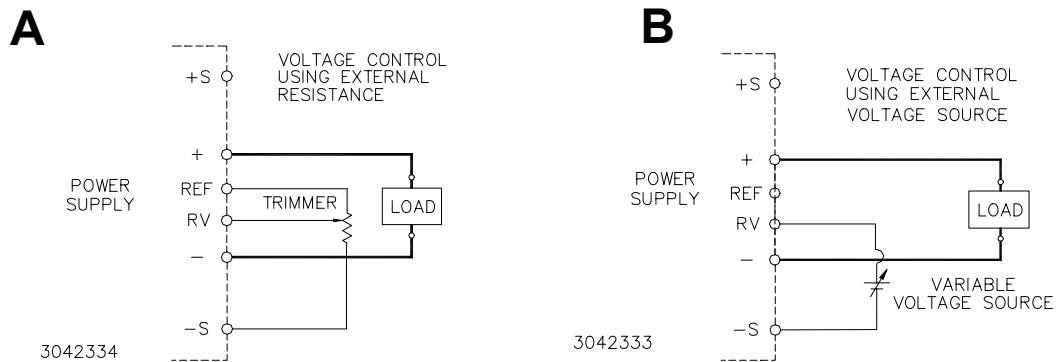

FIGURE 5. CONNECTIONS FOR REMOTE VOLTAGE CONTROL
RESISTANCE. Use a shielded wire, 2m maximum in length, for connection to the trimmer control. Connect the external trimmer as shown in Figure 5 (A). Suggested value for the trimmer control is 5K ohms). With the external trimmer control at its maximum clockwise position, set the output voltage to the desired maximum value by adjusting Vadj clockwise. The value should not be more than 120% of Eo nominal (not more than 110% for the 48-volt model, not more than 3.6V for the 3.3-volt model).
VOLTAGE. By adjusting an external 0-6V voltage source (0-5.5V for the 48-volt model) from minimum to maximum, the maximum output voltage can be adjusted from 0 to 110% (the 3.3-volt model can be adjusted to 3.6V). Remove the shorting link between the REF and RV terminal. Connect the voltage source across the RV and (-)S terminals as shown in Figure 5 (B).